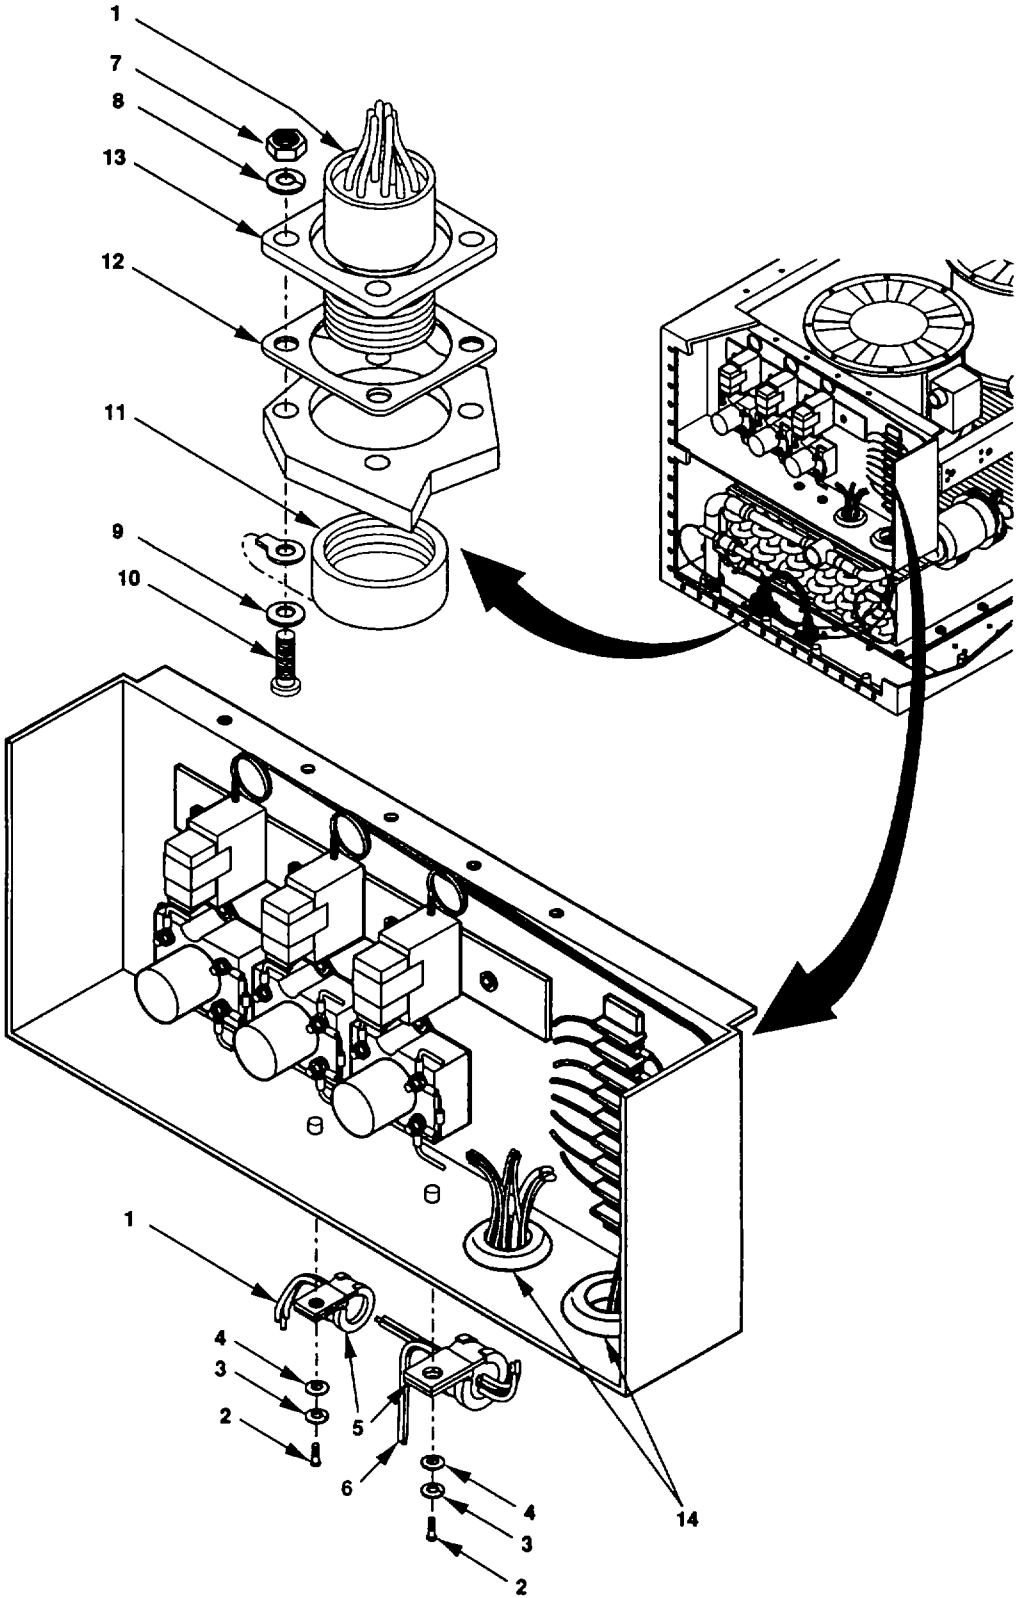

Figure 4-10. Condenser Assembly Wiring Harness Maintenance.
- (1) Refer to Appendix H, Figure H-2, Tables H-3 and H-4, and tag and disconnect all single wire terminations for wiring harness A104J1 (Figure 4-10, 1) and remove and discard all tiedown straps.
- (2) Remove two screws (2), lock washers (3), flat washers (4), and cable clamps (5). Discard lock washers (3).